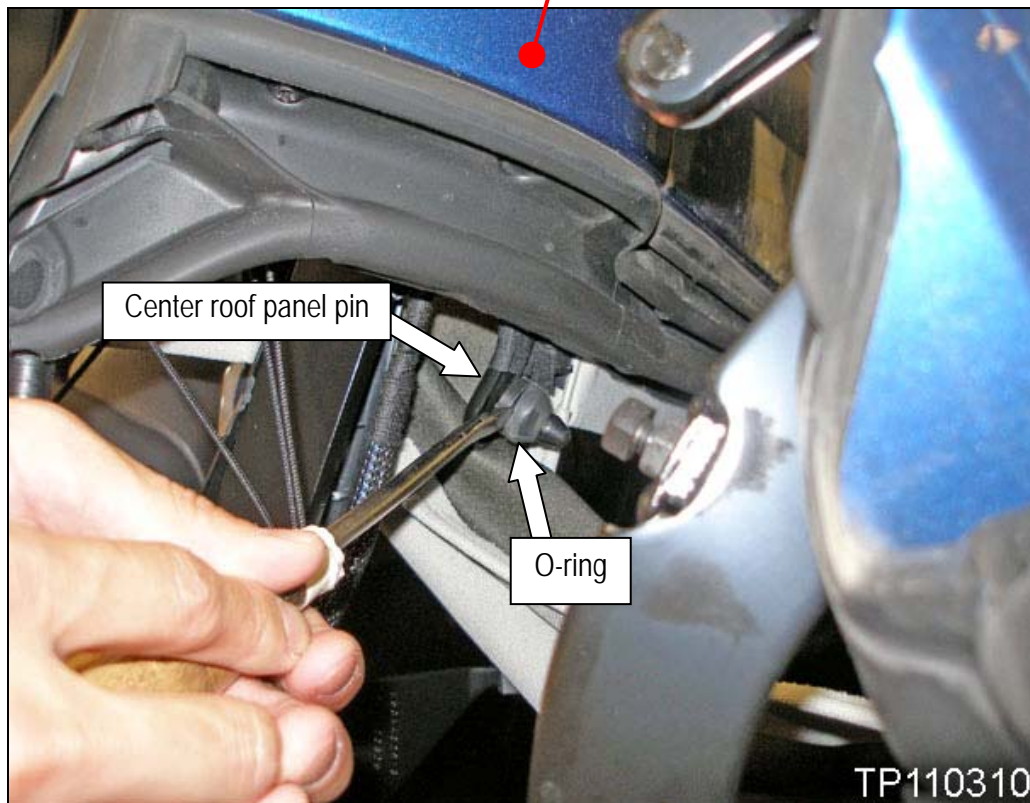

Figure 2c
- There is one (1) O-ring at each rear corner of the center roof panel, mounted on center roof panel pins as shown in Figure 2c.